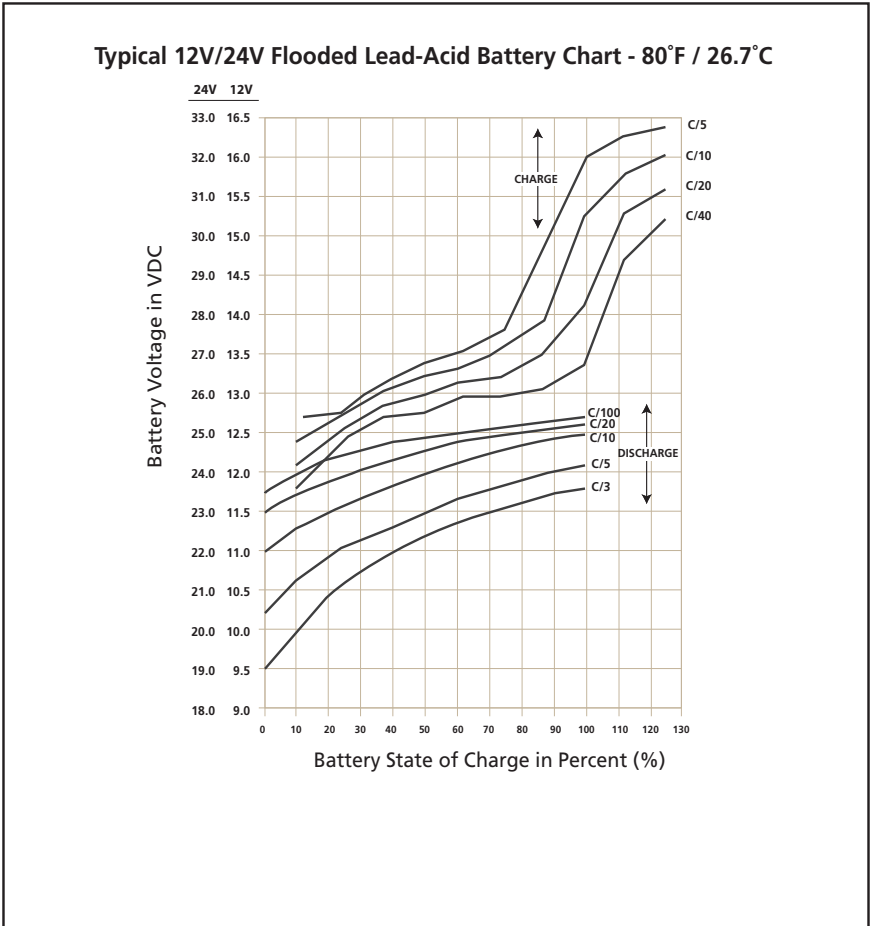

Fig 7.1 Charging / Discharging Curves for Typical 12V/24V Flooded Lead Acid Battery
7.7.1 Fig 7.1 shows examples of State of Charge / Discharge Curves for different C-rates for typical 12V / 24V Lead Acid Battery at 80°F / 26.7°C. These curves are used to determine the State of Charge / Discharge of the battery based on its terminal voltage.
7.7.2 Example of Determining *State of Charge* (using Fig 7.1) when Charging 12V, 100Ah Battery at C-rate of 0.1C or C/10 or 10A: Refer to Charge Curve marked C/10 of the upper 4 curves marked "CHARGE". States of Charge at different battery terminal voltages will be: (a) At 5.3V = 100% charged; (b) At 14.3V = 90% charged; (c) At 13.5V = 70% charged; (d) At 12.5V = 15% charged
7.7.3 Example of Determining State of Discharge (using Fig 7.1) when Discharging 12V, 100Ah Battery at C-rate of 0.33C or C/3 or 33.3A: Refer to Charge Curve marked C/3 of the lower 4 curves marked "DISCHARGE". States of Discharge at different battery terminal voltages will be: [a] At 9.5V = 100% discharged (0% charged); [b] At 10.4V = 80% discharged (20% charged); [c] At 11.5V = 28% discharged (72% charged) and [d] 11.75V = 0% discharged (100% charged)
The discharge curves in Fig. 7.1 show the % State of Charge versus the terminal voltage of typical Flooded Lead Acid Battery under different charge /discharge currents, i.e. “C-rates” and fixed temperature of 80°F. (Please note that the X-Axis of the curves shows the % of State of Charge. The % of State of Discharge will be 100% - % State of Charge).
As stated earlier at Section 7.10, the buzzer alarm is triggered when the voltage at the DC input terminals of the inverter has dropped to around 10.5V for a 12V battery or 21V for a 24V battery at C-rate discharge current of C/5 Amps. Please note that the terminal voltage relative to a particular of State Discharge decreases with the rise in the value of the discharge current. For example, terminal voltages for a State of Discharge of 80% (State of Charge of 20%) for various discharge currents will be as given at Table 7.5 (Refer to Fig 7.1 for parameters and values shown in Table 7.5):
Inverters are normally provided with a protection to shut down the output of the inverter if the DC voltage at the input terminals of the inverter drops below a threshold of around 10V for a 12V battery or, 20V for 24V battery. Referring to the Discharge Curves given in Fig 7.1, the State of Discharge for various C-rate discharge currents for battery voltage of 10V/ 20V is as follows: (Please note that the X-Axis of the curves shows the % of State of Charge. The % of State of Discharge will be 100% - % State of Charge):